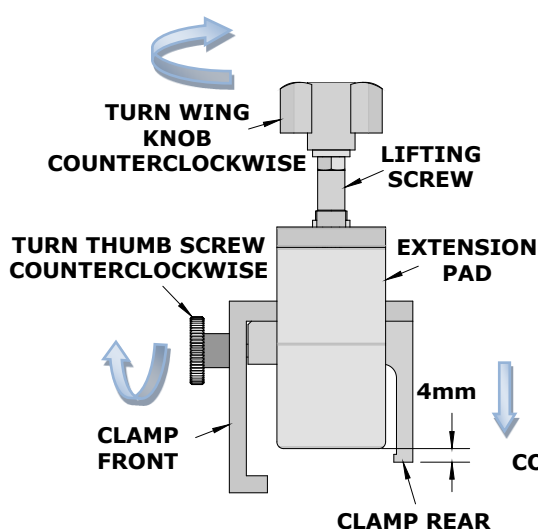

Figure 3
1. Turn the wing knob counterclockwise so the clamp rear and clamp front are approximately 4mm below the bottom edge of the extension pads. See Figure 3.